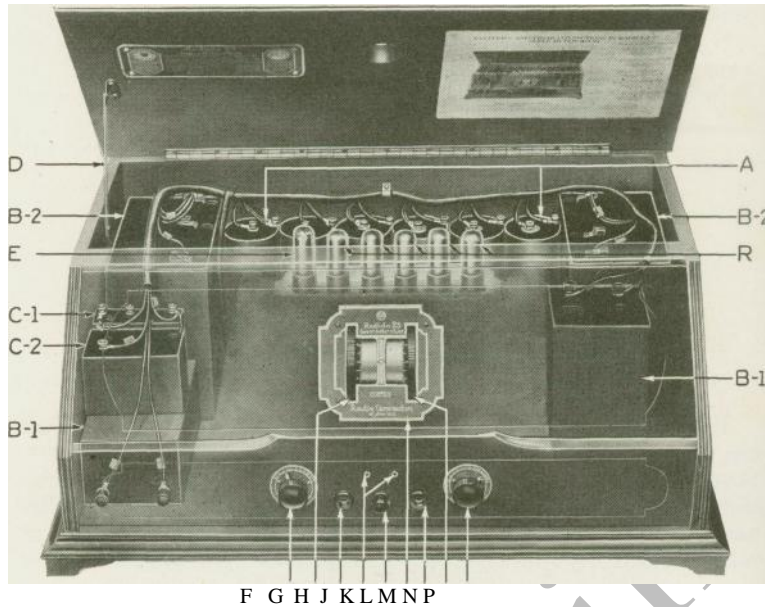

Fig.13. Radiola 25 with Batteries and Radiotrons Installed
Do not insert the Radiotrons into their sockets until the battery installation has been completed. When making battery replacements, push in the filament switch K (Fig. 13), and remove all six Radiotrons from their sockets before proceeding to make the connections.
After all the above connections have been made, it may be well to examine them and to note that they all agree with the connections illustrated in Fig. 13 and those shown on the "Instruction Card" fastened to the cabinet cover.
Insertion of Radiotrons. All the Radiotrons should be handled with care. Before installing the Radiotrons, turn the "BATTERY SETTING" pointer F, Fig. 13, to "OFF," and push in the filament switch K in the center of the vertical control panel.
Voltmeter. In order to obtain the maximum useful life of Radiotrons and batteries, it is recommended that a high-grade high-resistance voltmeter be used to adjust the filament terminal voltage to a value not exceeding 3.3 volts. This voltage may be measured by inserting the leads of the voltmeter, preferably equipped with phone tips, into the filament voltmeter jacks J (Fig. 13). With the "VOLUME CONTROL" pointer at "LOUD" and "BATTERY SETTING" pointer at "OFF", insert the voltmeter leads not more than one inch into the filament voltmeter jacks, the lead from the positive ("+") terminal entering the right-hand jack. Then advance the "BATTERY SETTING" pointer slowly until the voltmeter registers proper value, which should be as low as will give good
Tuning. The tuning of Radiola 25 involves only the manipulation of the two drums G and N on the Station Selector Control L (Fig. 13), a simple operation after the principles described below become thoroughly understood.
(1) Turn "FILAMENT" pointer to the left. This decreases the volume by reducing the filament temperature, thus prolonging the life of the Radiotrons. The pointer should, however, be set far enough to the right to maintain a good quality of reproduction.
(2) Turn "VOLUME CONTROL" pointer toward "SOFT".
(3) Insert the telephone plug into the first stage telephone jack H (Fig. 13).
(4) Rotate the loop until the best position is found.
(5) On powerful near-by stations an additional reduction is often necessary. This may be obtained by holding the right-hand station selector drum firmly in position and moving the left-hand drum a few divisions either forward or backward until the desired intensity is obtained. Note that the new position of the left drum affects only the intensity or volume of the signal, while a slight change in the position of the right drum affects the quality of reproduction. Therefore the right-hand drum should be adjusted with extreme care.
Often, improved operation may be obtained by interchanging the UX-199 Radiotrons. This may be the case even when the Radiotrons are new. The UX-120 Radiotron must always be used in socket 6, at the left-hand end. The user can tell whether this Radiotron is in operating condition by switching a telephone headset or separate loudspeaker from the first stage jack H to the second stage jack M, Fig. 13. There should be a noticeable increase in signal strength when connected to the second stage. If there is not, the UX-120 Radiotron should be replaced.